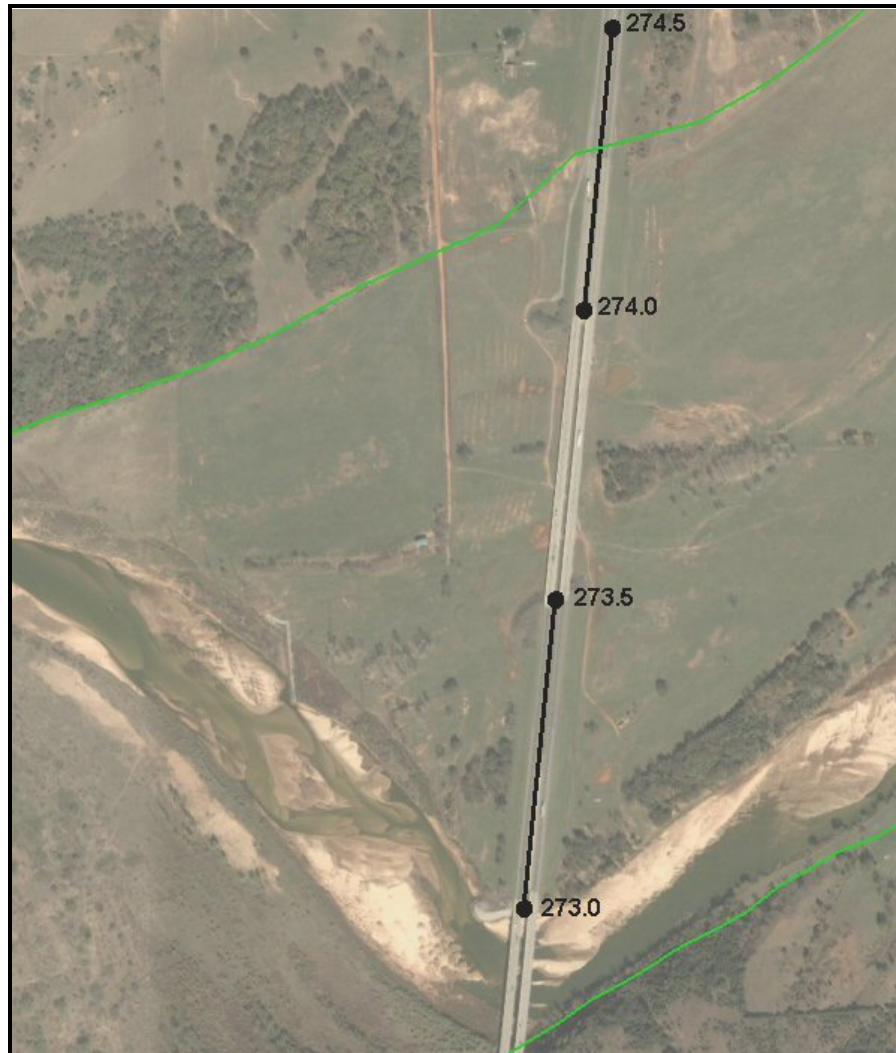

Figure 23 Roadway embankment arc and elevations
2. Display the image by selecting its box in the project explorer and click out two arcs for the road embankments as shown in Figure 23.
3. Change the elevation of each node to the appropriate value as shown in Figure 23.